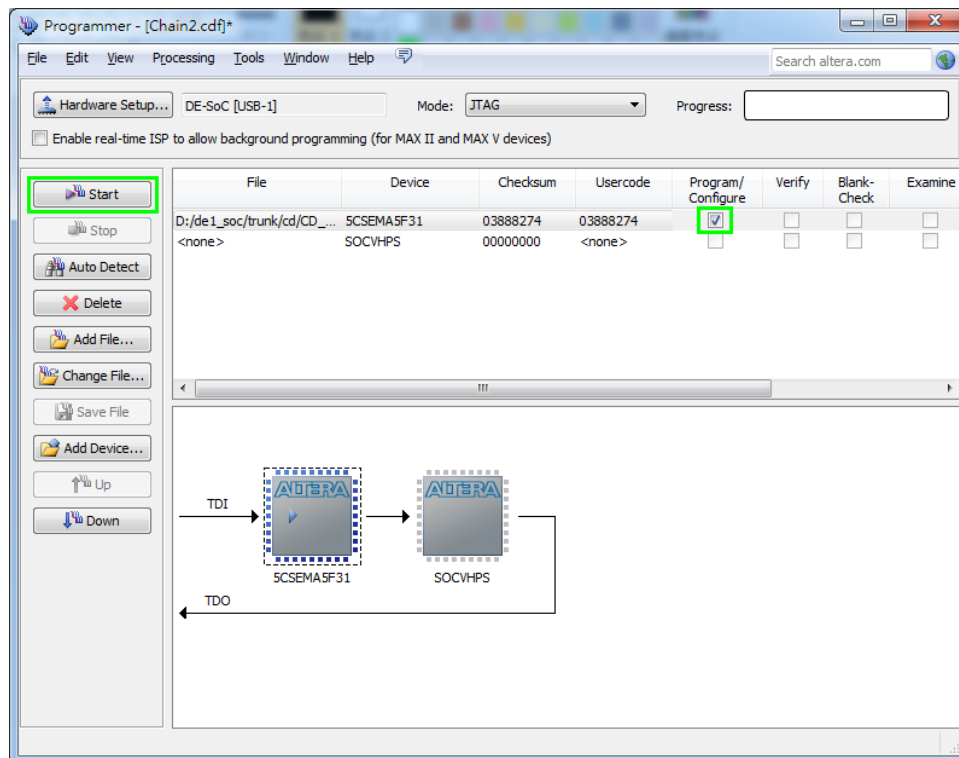

Figure 3-8 FPGA JTAG Programming Steps 6
- Click “Program/Configure” check box, and then click “Start” button to download .sof file into FPGA as **Figure 3-8**